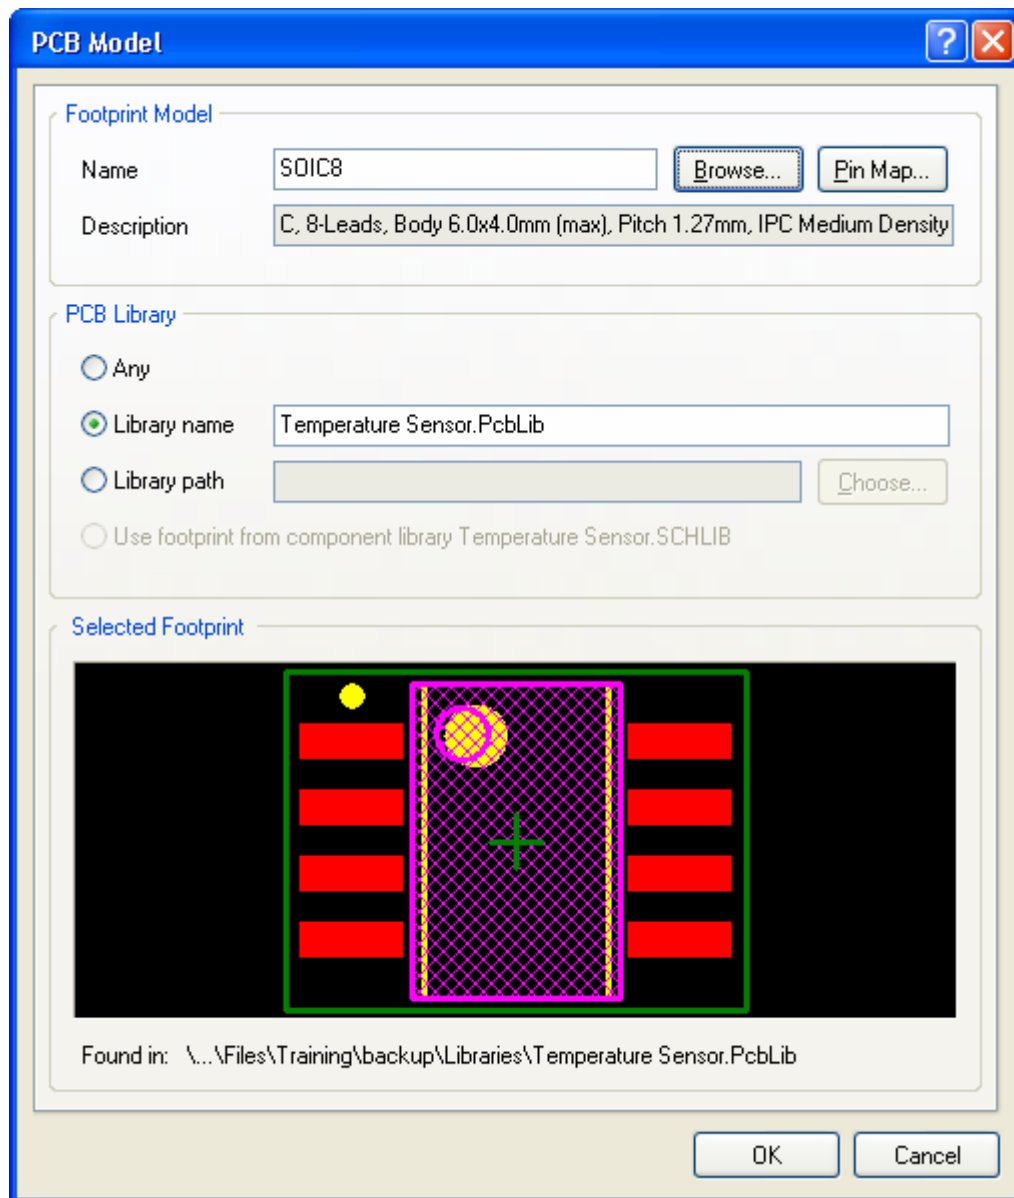

Figure 2. Adding the footprint model to the component.
5. Click **Add Footprint** to launch the *PCB Model* dialog, as shown in Figure 2.